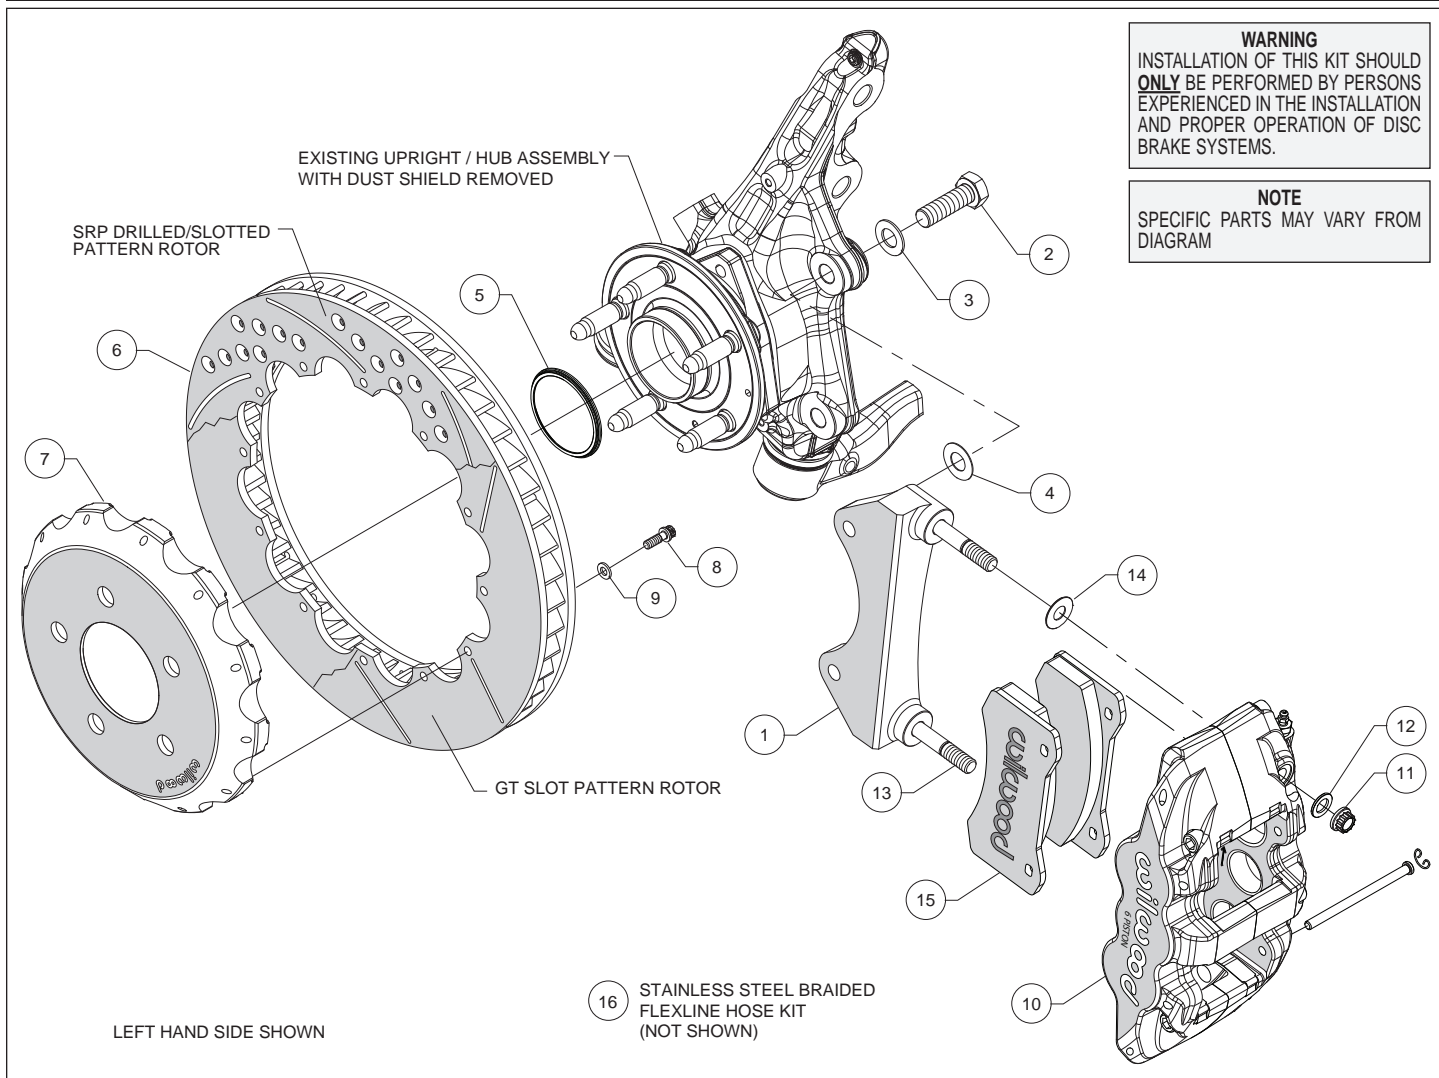
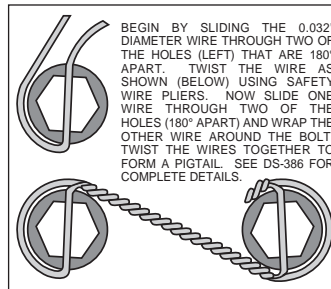

Figure 1. Typical Installation Configuration
Figure 3. Safety Wire Diagram
Assembly Instructions (numbers in parenthesis refer to the parts list and Figure 1 on the preceding pages):
- The caliper mount bracket (1) should initially be installed with clean, dry threads on the mounting bolts. Orient the bracket as shown in Figure 1, and Photo 1 and install using bolts (2) and washers (3). Initially place one .029" thick shim (4) on each bolt between the bracket and upright, Figure 1. Temporarily tighten the mounting bolts. **NOTE:** *The bracket must fit squarely against the mount bosses on the upright.* Inspect for interference from casting irregularities, machining ridges, burrs, etc. Later, after the caliper alignment has been checked, the mount bolts will be secured using red *Loctite*[®] 271.
- Orient the rotor (6) and the hat (7) as shown in Figure 1 and Photo 2. Attach rotor to hat using bolts (8) and washers (9). Using an alternating sequence, apply red *Loctite*[®] 271 to the threads, and torque to 155 in-lbs. For an added measure of security, the bolts may be safety wired using standard 0.032 inch diameter stainless steel safety wire as shown in Figure 3. Please refer to Wilwood's data sheet DS-386 (available at www.wilwood.com/Pdf/DataSheets/ds386.pdf) for complete safety wire installation instructions.
- NOTE:** *This kit contains distinct right and left hand calipers that must be mounted in a specific direction, as described below.* Lubricate the caliper mounting studs (13) with lightweight oil. Initially place one .030" thick shim (14) on each stud as shown in Figure 1 and Photo 5. Mount the caliper (10) onto the bracket (1) using lock nuts (11) and washers (12), Figure 1. Ensure that the caliper is mounted so that the largest pistons are at the rotor exit end of the caliper, in relation to the direction of rotor rotation. Temporarily tighten the lock nuts and view the rotor through the top opening of the caliper. The rotor should be centered in the caliper, Photo 6. If not, adjust by adding or subtracting shims (4) between the bracket and the upright. Always use the same amount of shims on each of the two mounting bolts. Once the caliper alignment is correct, remove the bracket mounting bolts (2) one at a time, apply red *Loctite*[®] 271 to the threads, and torque to 77 ft-lb.
- Remove the two pad retaining pins from the caliper (10) by carefully popping out the pin retaining clips and sliding out the pins. Insert the brake pads (15) into the caliper from the bottom, Figure 1 and Photo 7. With the friction material facing the rotor, secure the brake pads in place with the pad retaining pins and clips, Photo 8. Reinstall the caliper onto the caliper mounting bracket and temporarily tighten the lock nuts. Check that the top of the brake pad is flush with the outside diameter of the rotor, Photo 9. If not, adjust by adding or subtracting shims (14) between the caliper and the bracket. After the caliper pad height is set, torque the caliper lock nuts (11) to 47 ft-lb.